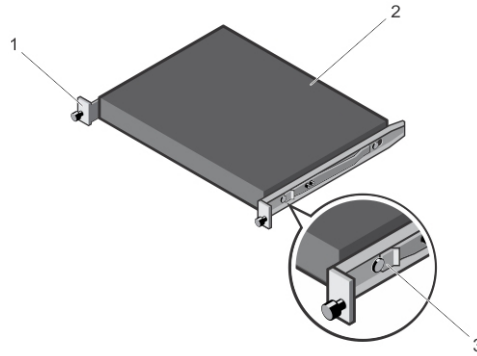

Figure 18. Attaching the Switch Rails
1. Attach the switch rails (inner chassis members) to the N30xx system. Item 3 in Figure 18 shows the detail for the front standoff with the locking tab.